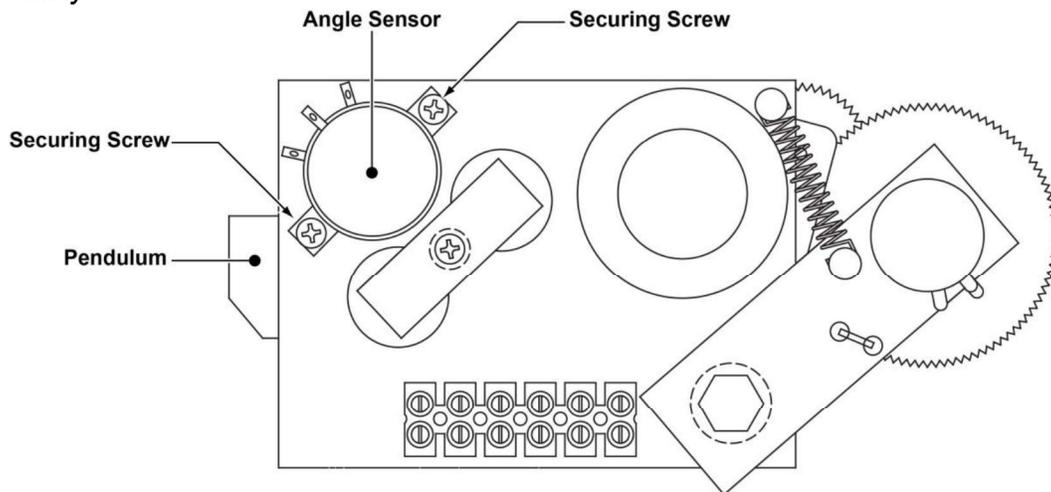

FIGURE 5.7.5 - SENSOR BASEPLATE ASSEMBLY
2. Locate the pendulum. Refer to Figure 5.7.5 below.